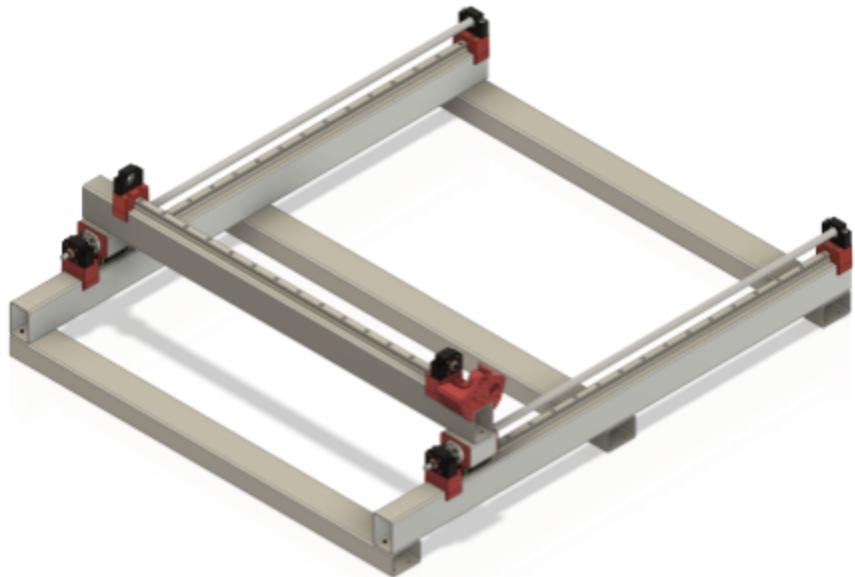

Figure 10.1
2. Place one HGR20 rail on the top surface and position a BK12 mount and a BF12 mount around it. Finally, place a X-Axis motor mount on the beam and reposition all components until desired configuration is found. Figure 10.1 shows an example of this process with the NEMA 17 dual motor option.